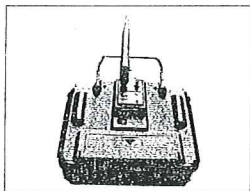

Figure 2 Futaba
2. Put the Corona 2.4 G transmitting module into the module port (See figure 2)